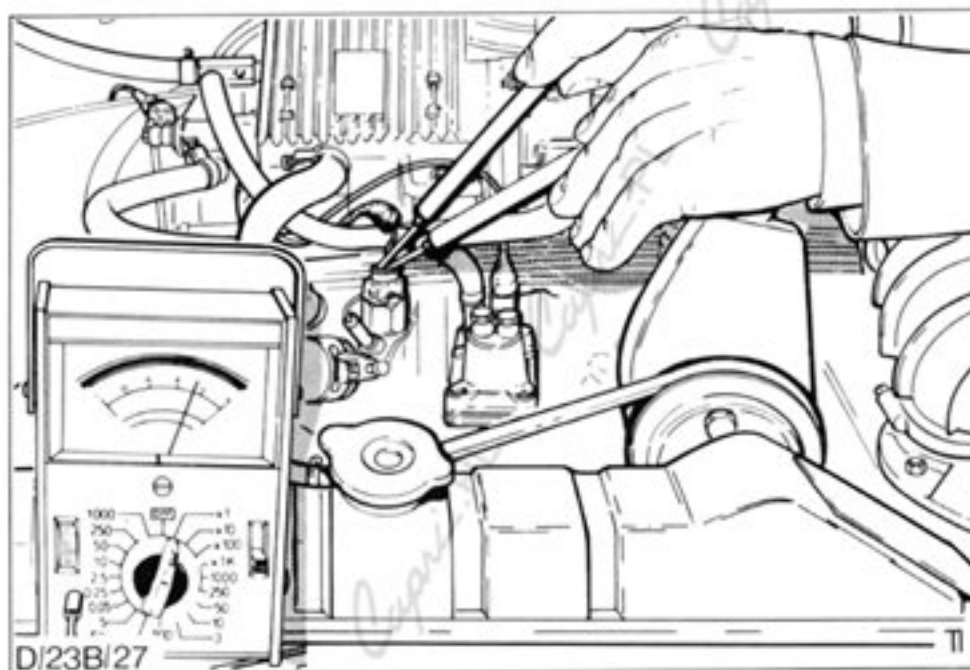

Fig.65. Voltage check at thermo time switch.
- (iv) Peel back insulation at switch plug and with engine cranking measure voltage at plug, Fig.65.